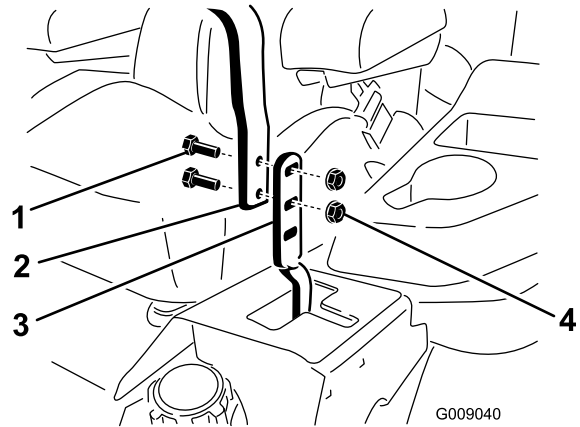

Figure 74
3. Loosen the bolts and flange nuts installed in the levers (Figure 74).